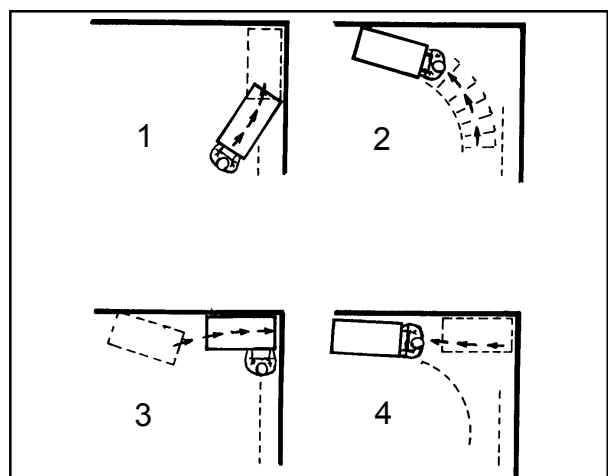

Figure 11
13. When cleaning in a corner, change the accessory switch to accessory, raise the brush, maneuver the machine as illustrated in figure 11. Lower the recovery tool, turn the accessory switch back to "Floor" and proceed with cleaning.